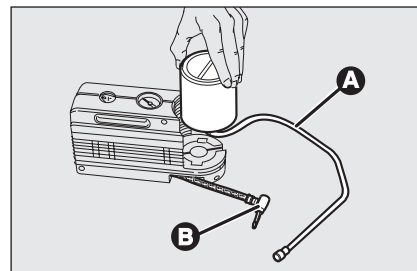

fig. 17
- disconnect connection **B-fig. 17**;